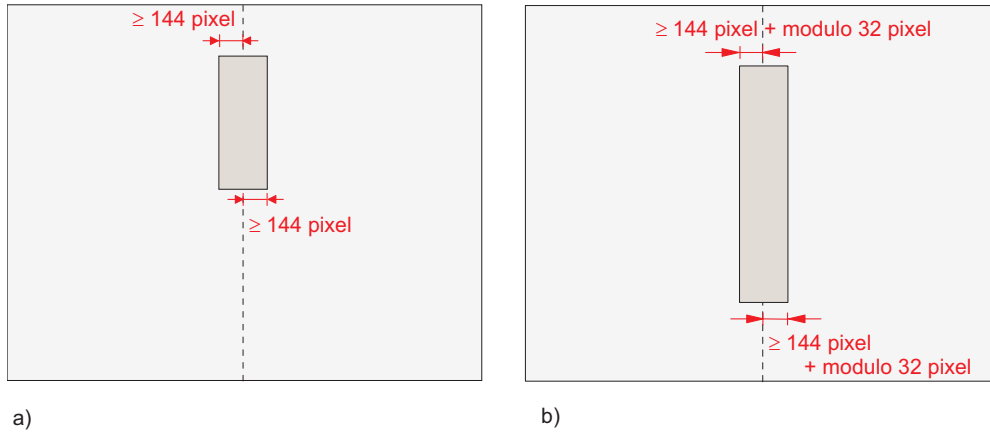
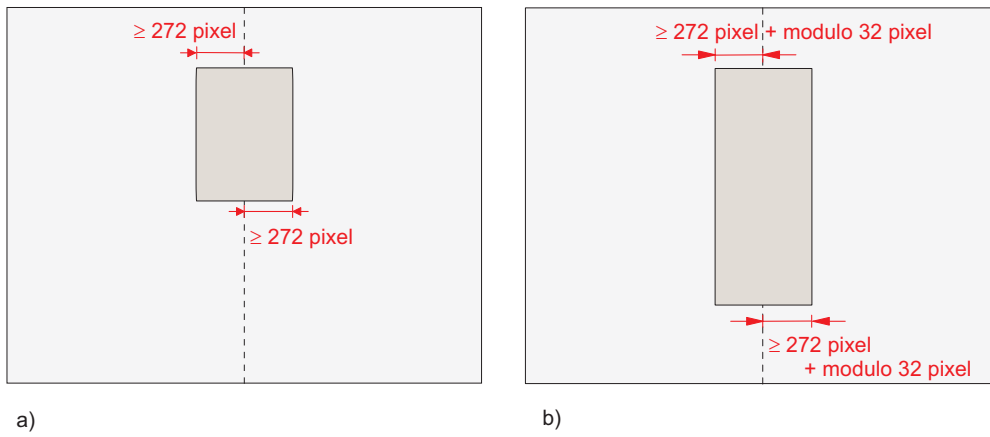

Figure 4.26: Possible configuration of the region of interest for the MV1-D1312(I)-40 CMOS camera
Figure 4.27: Possible configuration of the region of interest with MV1-D1312(I)-160 CMOS camera
Some applications do not need full image resolution (e.g. 1312 x 1082 pixels). By reducing the image size to a certain region of interest (ROI), the frame rate can be drastically increased. A region of interest can be almost any rectangular window and is specified by its position within the full frame and its width (W) and height (H). Fig. 4.26 and Fig. 4.27 shows possible configurations for the region of interest, and Table 4.3 presents numerical examples of how the frame rate can be increased by reducing the ROI.
The minimum width must be positioned symmetrically towards the vertical center line of the sensor as shown in Fig. 4.26 and Fig. 4.27). A list of possible settings of the ROI for each camera model is given in Table 4.6.